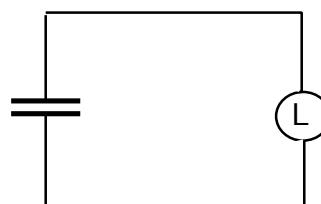
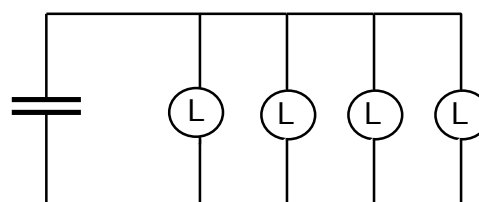

Figure 3.10b
Figure 3.10f
3. Finally, charge the capacitor and discharge through four long bulbs as in Figure 3.10f. Record the time for the bulbs to go out. Compare the brightness of the four bulbs during the discharge with the single bulb in 3.10b.
6. Suppose you wanted to replace the bulb in Figure 3.10b with a single bulb that would allow the capacitor to discharge in the same amount of time as the four long bulbs in Figure 3.10f. Would you look for a bulb that had greater resistance or less resistance than a long bulb? Would that bulb have greater conductance or less conductance than a long bulb?